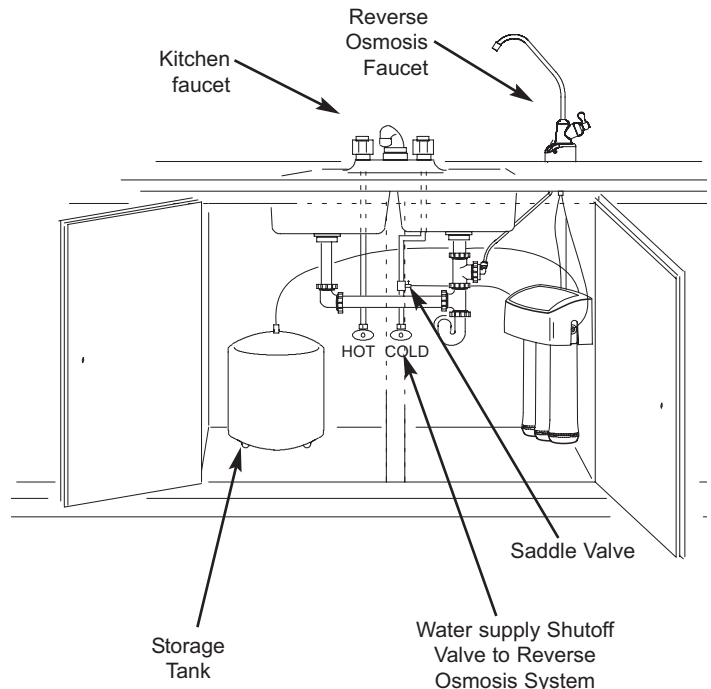

FIG. 24
2. Turn the handle of the saddle valve counterclockwise to open the valve. See Fig. 24.